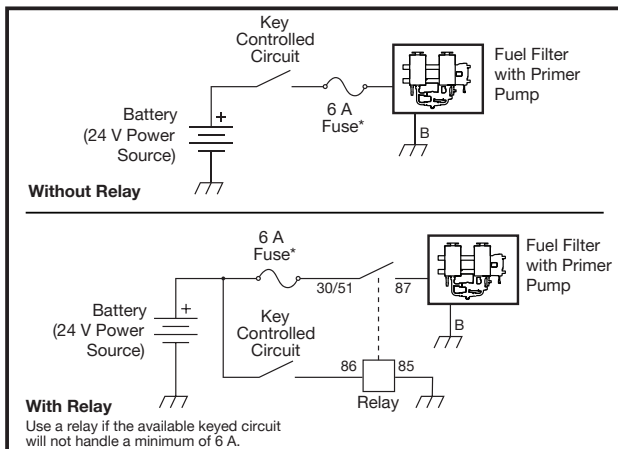

Figure 9 - Power Connection Schematics
- Locate an electrical power source from the engine capable of providing 24 V, 6 A power to the Primer Pump. See Figures 9 and 10.